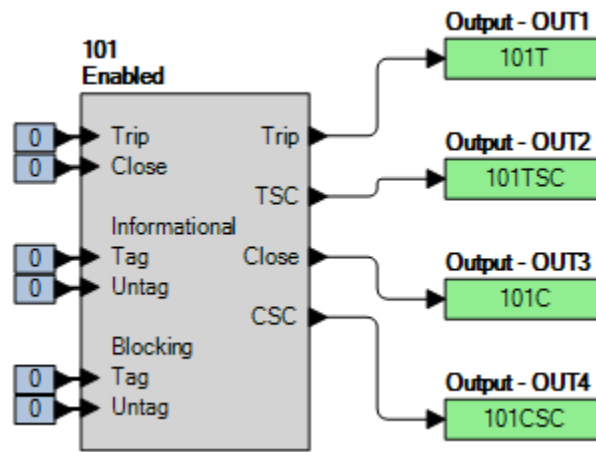

Figure 71-1. BESTlogicPlus Settings
Step 2: Use BESTCOMSP*lus* to configure the BESTlogic*Plus* Programmable Logic shown in Figure 71-1.